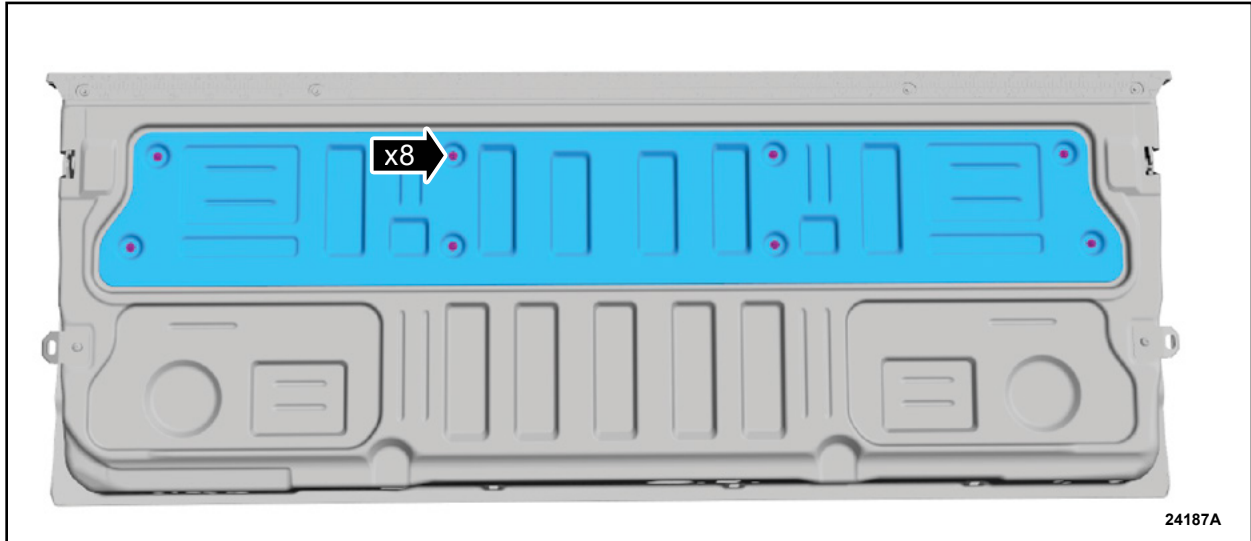

FIGURE 2
2. If not equipped with a tailgate liner, remove the tailgate access panel bolts and the tailgate access panel. See Figure 2.